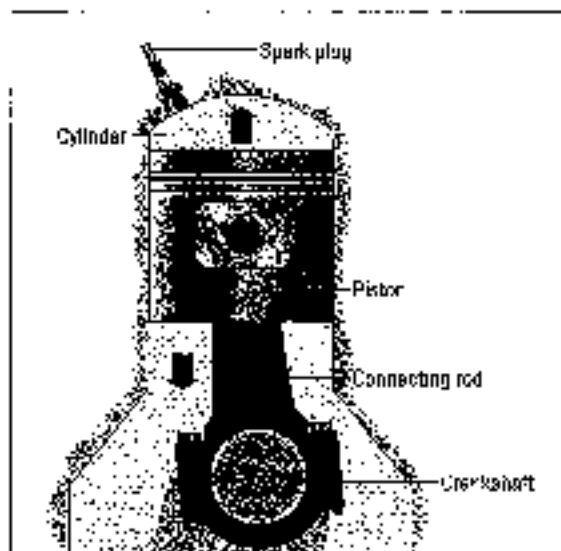

Figure 4-3:
6. This fuel/air mixture passes into the cylinders in your engine. A cylinder, as shown in Figure 4-3, is a hollow pipe with one open end and one closed end. Inside each cylinder is a piston, which fits very snugly and moves up and down. The piston moves up, trapping the fuel/air mixture in the upper part of the cylinder and compressing it into a very small space.